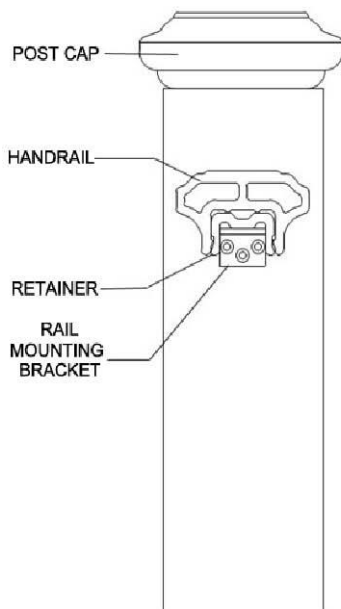

FIGURE 12
1. Place assembled rail sections between the 2 post sleeves and level; mark the 4 right angle rail mounting bracket locations. After drilling 12 holes supplied with 4mm drill bit, fasten the section to post sleeves using M5\*50screws. As shown in Figure 12.